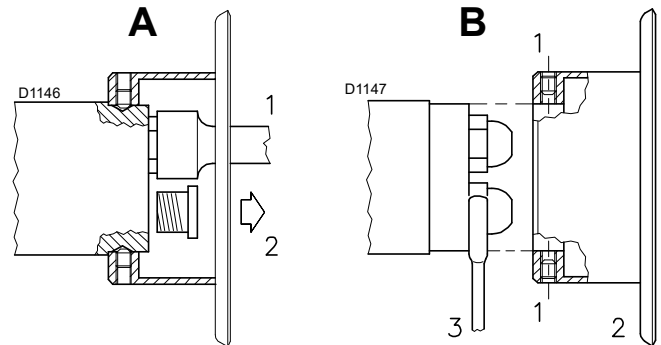

Fig. 16
- Assemble the two nozzles with the socket spanner 1)(A-Fig. 16) (16mm), after removing the plastic plugs 2)(A-Fig. 16), passing from the central opening of the flame stability disc. Alternatively, loosen the screws 1)(B-Fig. 16), remove the disc 2)(B-Fig. 16), and replace the nozzles using the spanner 3)(B-Fig. 16).